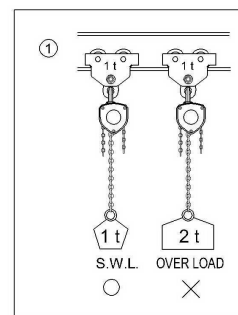

FIGURE 5
- ① Do not over loading.(FIGURE 5)
- ② Load just under the trolley.